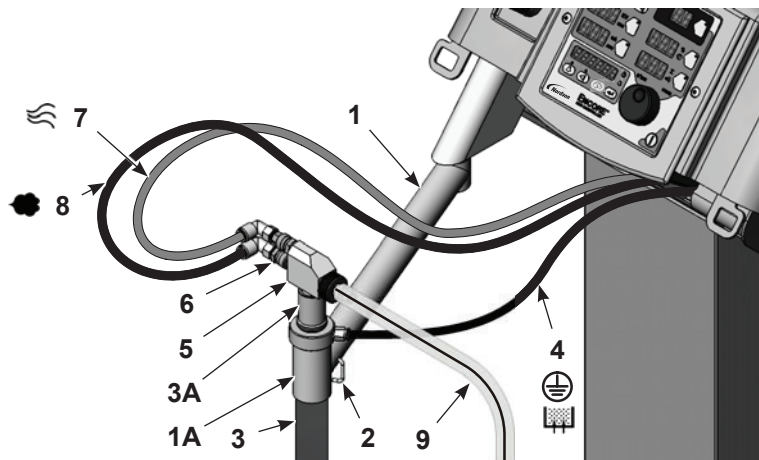

Figure 3-6 VBF System – Pickup Tube and Pump Installation
1. See Figure 3-6. Unpack the pickup tube (3).
2. Swing the pickup tube arm (1) out over the vibrator table, move the pickup tube catch (2) out of the way, then slide the pickup tube through the tube holder (1A).
3. Install the pump (5) into the pump adapter (3A) with a slight twisting motion.
- 8-mm blue atomizing air tubing (7) into the top tube fitting on the pump,
- 8-mm black flow air tubing (8) into the bottom tube fitting on the pump
- 6-mm black fluidizing air tubing (4) into the tube fitting on the pick-up tube.